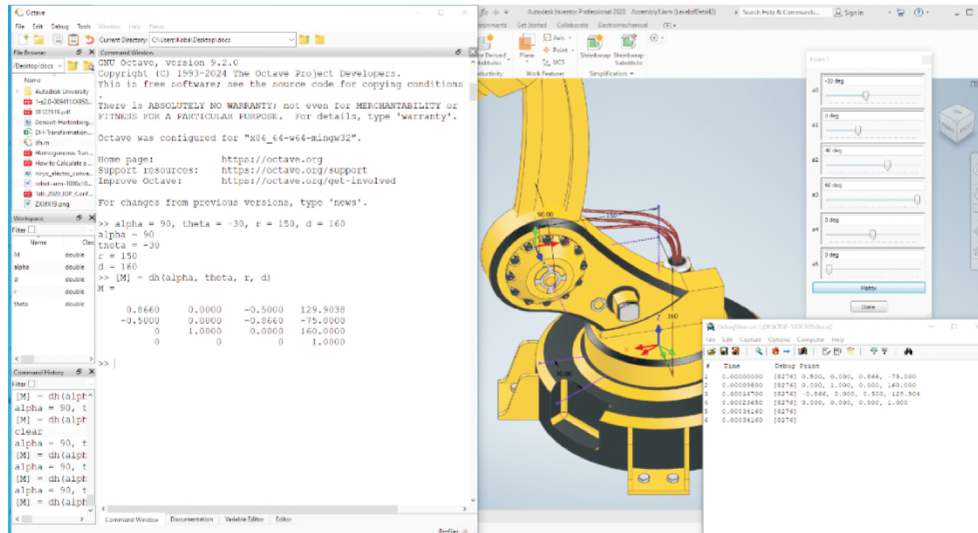

Fig. 4. Results comparison
In Fig. 4, transformation matrix elements computed in GNU Octave according to formulae (1) are compared to results obtained by Inventor API.